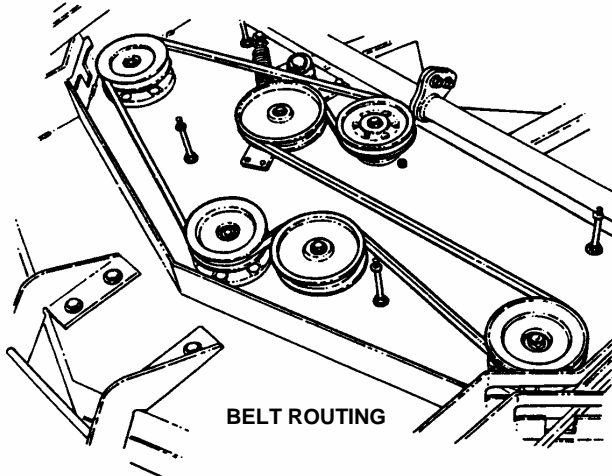

FIGURE 4.8
1. Route belt around blade pulleys and idler pulley in same the position as old belt was removed. It may be necessary to use a pry bar to pull idler pulley back to install belt. See Figure 4.8.